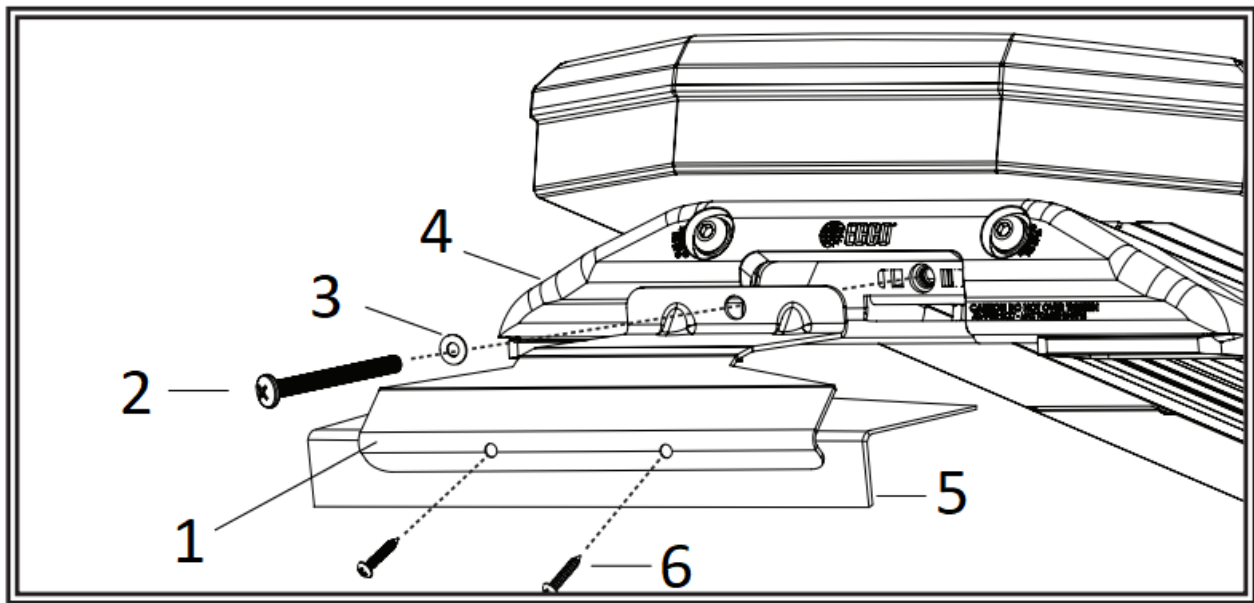

Figure 3
2. Center the lightbar across the vehicle and align the strap mount brackets to hook into the gutter of the vehicles door frame as shown in FIGURE 3.